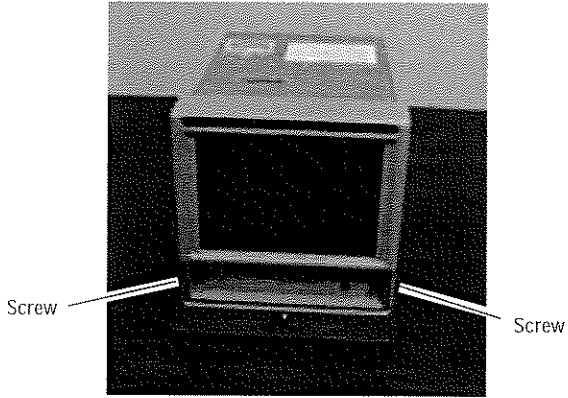

Figure 8-2. Remove Screws from Sides
See Figure 9-37 and Figures 8-2 to 8-8-6.
2. Remove the two screws on either side of the disk drive (see Figure 8-2).